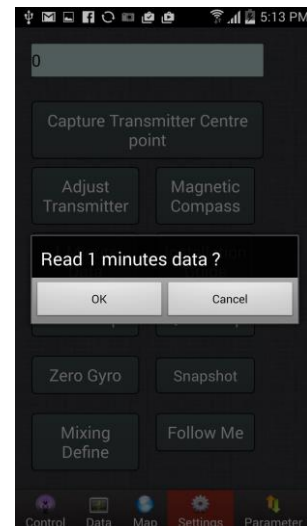

Figure 62
2. Click “One minute data” in the “Setting” interface and a confirmation dialog box will pop up, as shown in Figure 62.